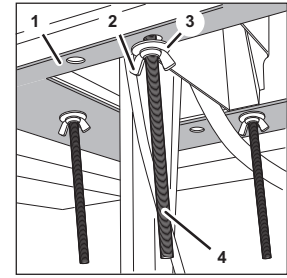

Fig. 12
4. Remove the wing nuts (Fig. 12/2) or nuts, washers (Fig. 12/3) and sealing plate (Fig. 12/1) from the threaded bolts (Fig. 12/4) used to attach the unit to the supporting structure.